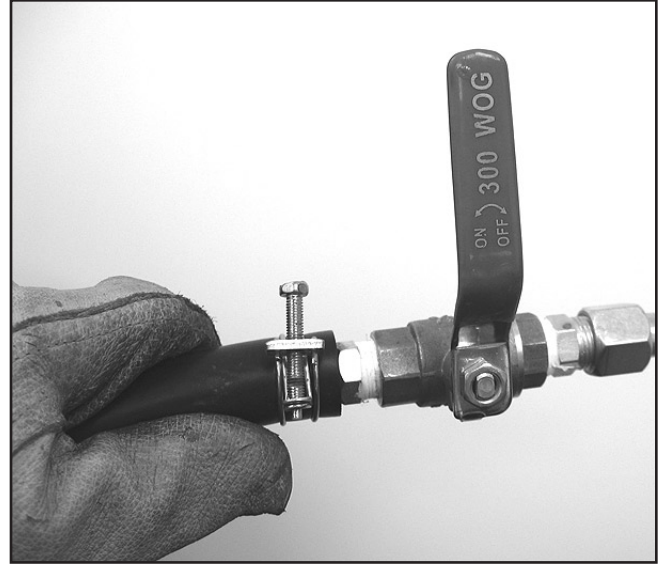

Figure 11. Blast nozzle valve, closed.
10. Close the blast nozzle lever, and turn the compressor on (see **Figure 11**).